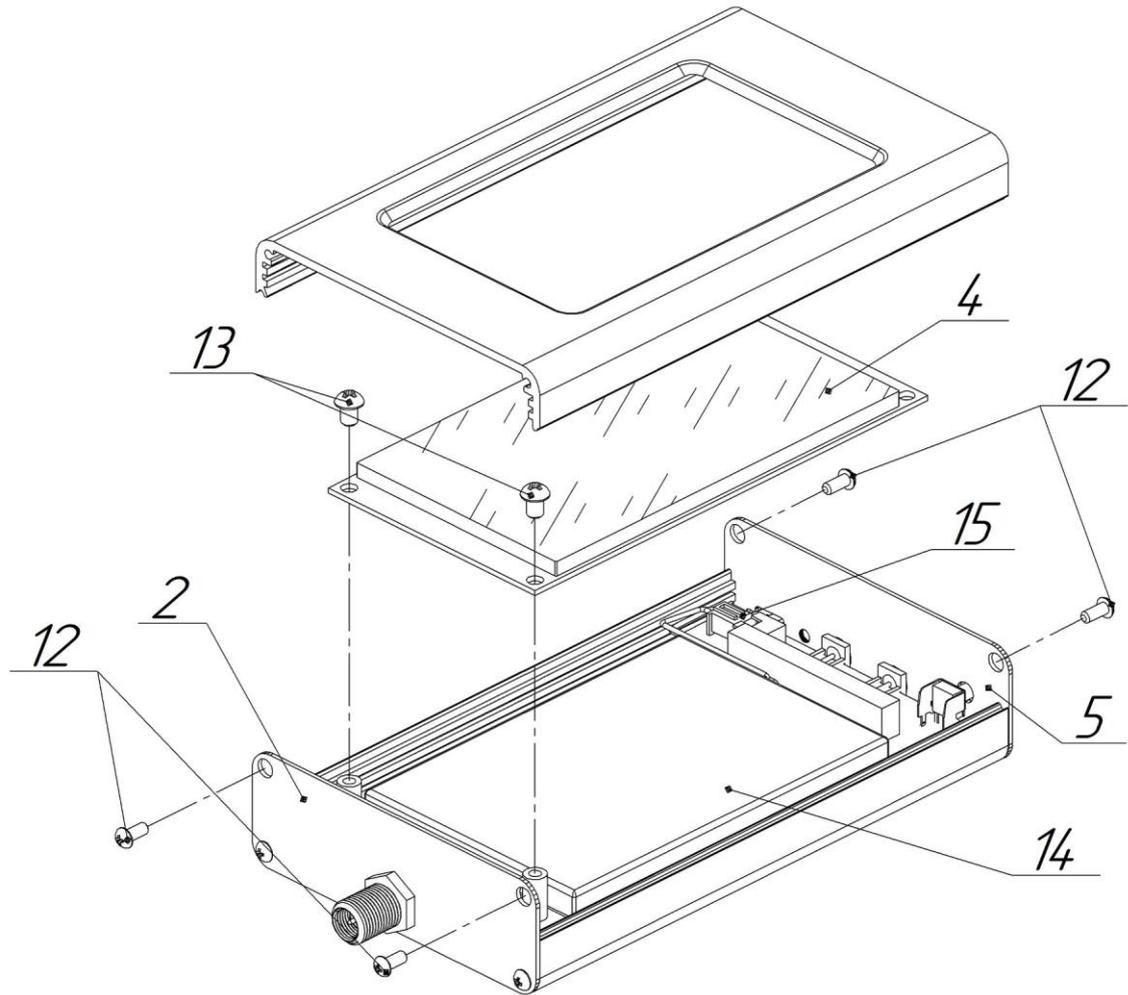

Figure 11.1 - Disassembly of the device case
11.3.4. Unscrew the 2 upper screws (12) of the panels (2) and (5). Carefully lift off the top of the housing (Figure 11.1).